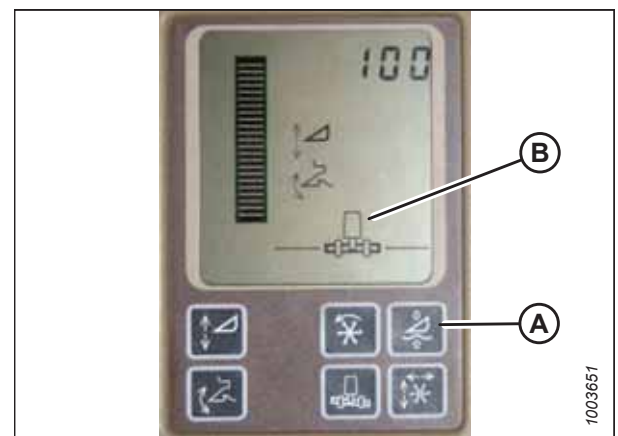

Figure 8.276: John Deere Combine Display
Do **NOT** use active header float function (A) in combination with the MacDon auto header height control (AHHC)—the two systems will counteract one another. Header symbol (B) on the display should **NOT** have a wavy line under it and should appear exactly as shown on the Active Header Control Display in Figure 8.276, page 489.